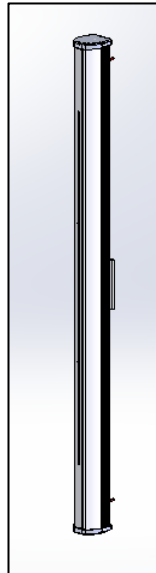

FIG.3 -VAPOR LUMINAIRE (AS SHOWN)
1. ELEMENT/VAPOR OUTDOOR SCONCE LUMINAIRE. (as shown in FIG. 3)